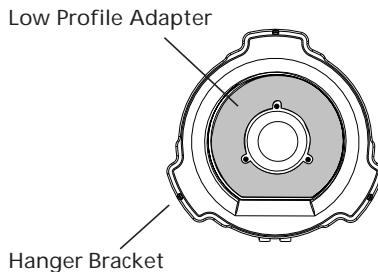

Figure 3c - Attaching the low profile adapter.
- Align the three slots in the low profile adapter with the three screw holes in the fan assembly as shown in Figure 3c. Thread one of the #8-32 x 3/4" SEMS screws into the threaded hole in the fan